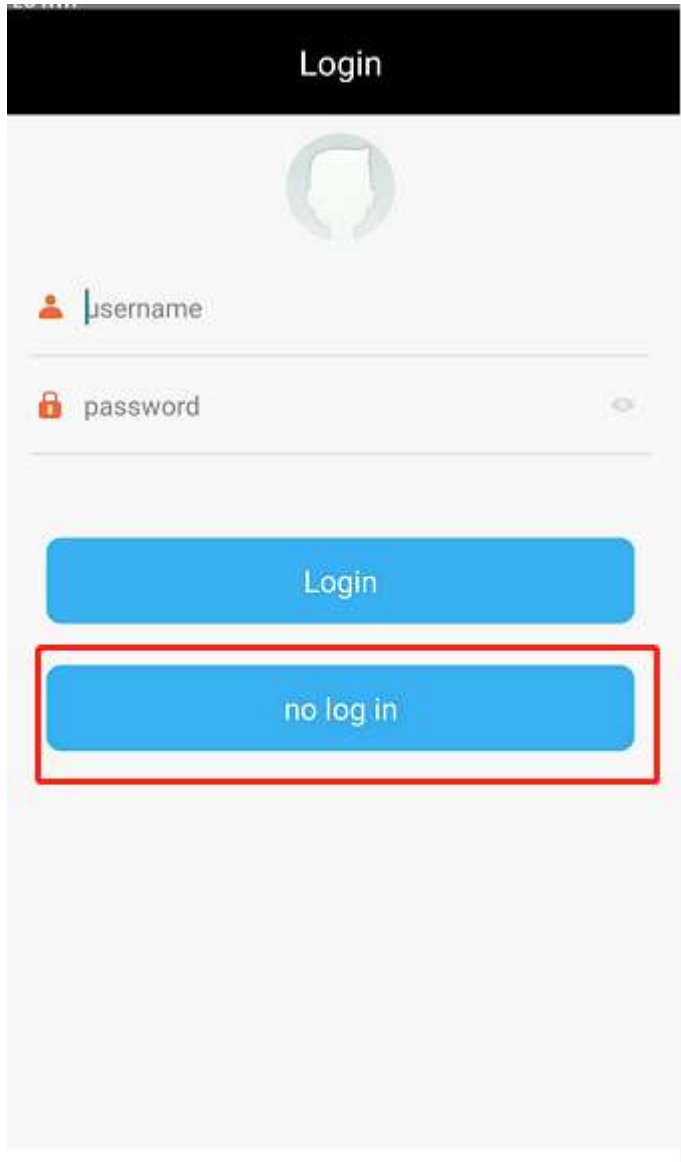

Figure 5-1
2. After GCS installation, the label will be appeared as figure 5-1.